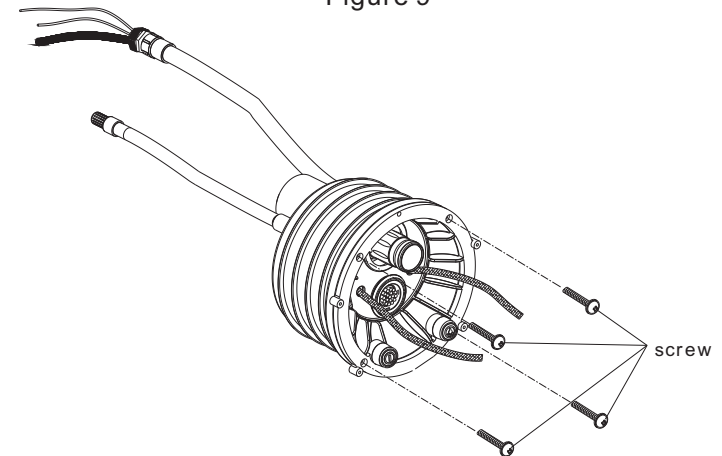

Figure 10
- 2) pass through the two pipes respectively from the hole of the support frame; and then use 4 M6 screws to fix the support frame onto the shell. ( Figure 10)